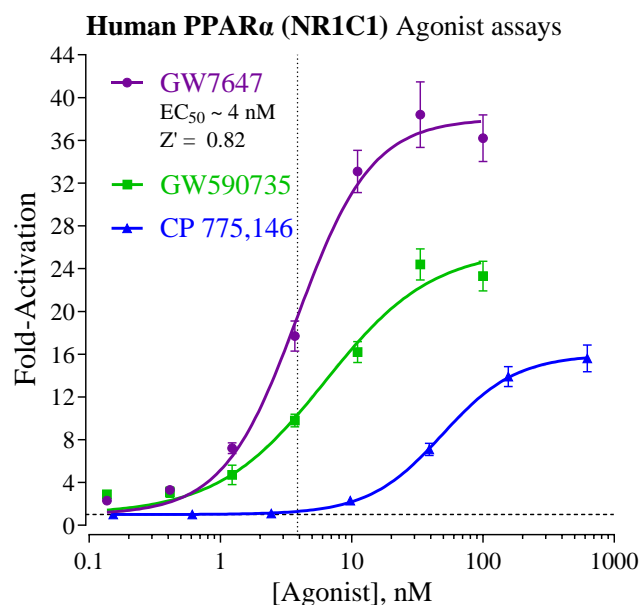

Figure 2. Agonist dose-response analyses of Human PPAR α .
Figures 2, 3, and 4 present performance data for the PPAR α , PPAR δ , and PPAR γ assays. To assess the level of background signal contributed by non-specific factors that may cause activation of the luciferase reporter gene, “mock” reporter cells, which contain only the luciferase vector, were treated with agonist, as noted in respective figures (mock reporter cells are not provided with assay kits). Luminescence was quantified (n \geq 4). Respective average RLU values were normalized to the untreated control RLU values. Data were plotted as Fold-Activation (error bars depict +/- %CV) vs. Log₁₀ agonist (nM) using non-linear regression. Data plotting and EC₅₀ determinations were performed using GraphPad Prism software. Z' values were calculated as described by Zhang, *et al.* (1999)¹.
- **PPAR α** : GW7647 is provided as a 300 μ M stock in DMSO; it may be used as an agonist of PPAR α (Figure 2) to set up antagonist screens. 10 nM GW7647 typically approximates EC₆₀₋₇₀ in this cell-based reporter assay. Hence, it presents a suitable assay concentration of agonist to be used when screening test compounds for inhibitory activity.
▪ **PPAR α .** Agonist GW7647 is provided as a 300 μ M stock in DMSO. The following 7-point treatment series, with concentrations presented in 3-fold decrements, provides a suitable dose-response: 300, 100, 33.3, 11.1, 3.70, 1.23 and 0.412 nM (Figure 2). Always include a 'no treatment' (or 'Vehicle only') control. **APPENDIX 1** provides an example for generating such a dilution series.